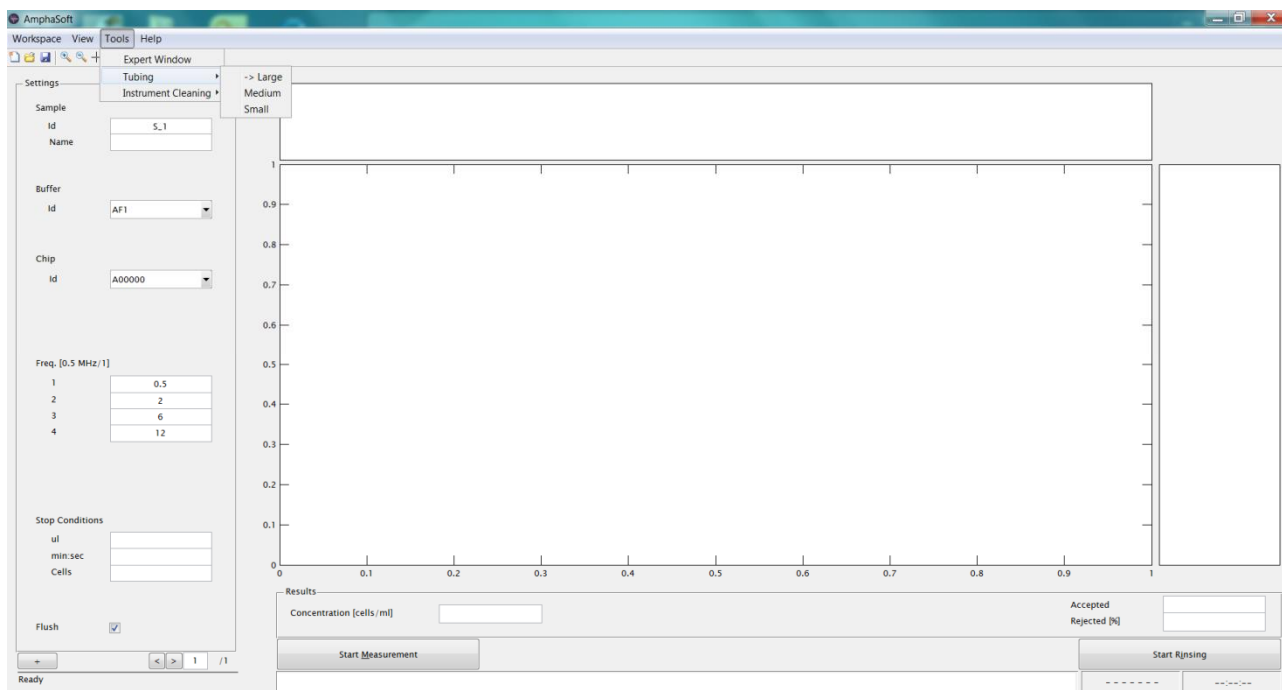

Figure 5: AmphaSoft Main GUI.
- AmphaSoft is started with a Main GUI (Fig. 5). All information how to use or measure with AmphaSoft are explained in the ***AmphaSoft SW User Guide***.